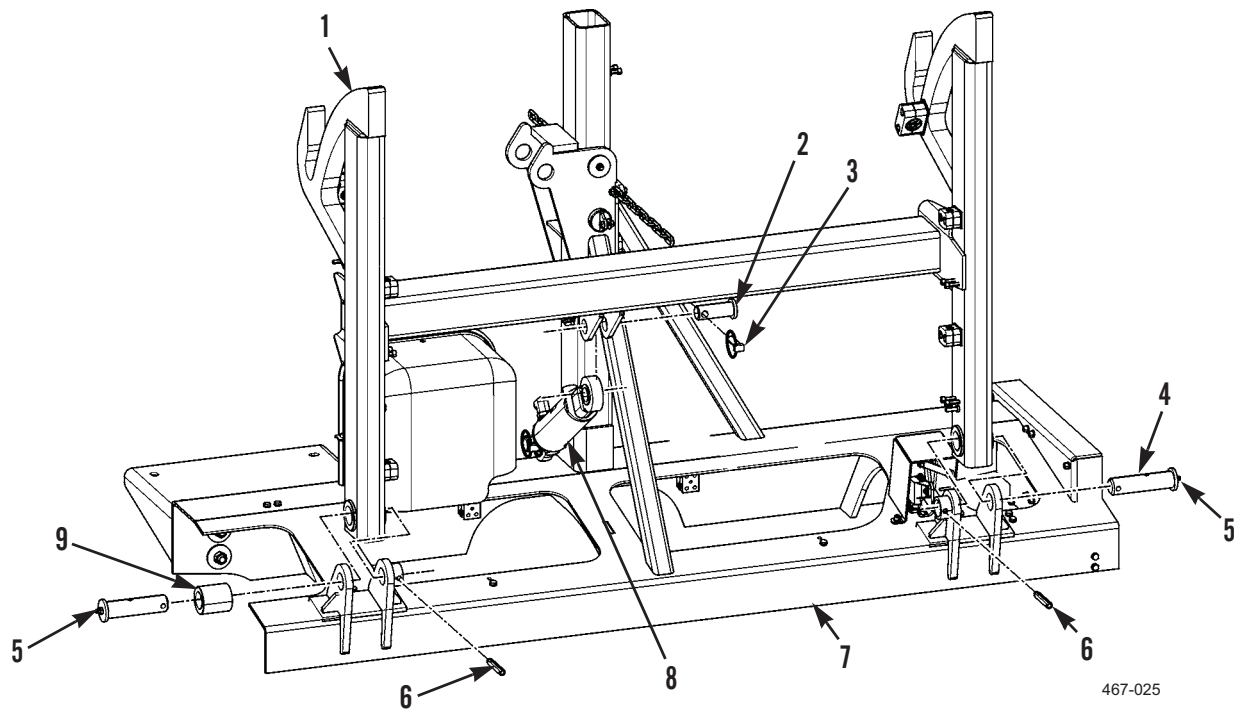

Figure 2. Stowage Guide.
2. Attach sling and lifting device to stowage guide (Figure 2, Item 1).
3. Use lifting device to install stowage guide (Figure 2, Item 1) on stowage assembly (Figure 2, Item 7).
4. Apply grease to two pivot pins (Figure 2, Item 4).
5. Install two pivot pins (Figure 2, Item 4) and new spring pins (Figure 2, Item 6) in stowage guide (Figure 2, Item 1).
6. Install two grease fittings (Figure 2, Item 5) on pivot pins (Figure 2, Item 4).
7. Apply grease to pivot pin (Figure 2, Item 2).
8. Install stowage cylinder (Figure 2, Item 8), pivot pin (Figure 2, Item 2), and snap ring pin (Figure 2, Item 3) on stowage guide (Figure 2, Item 1).